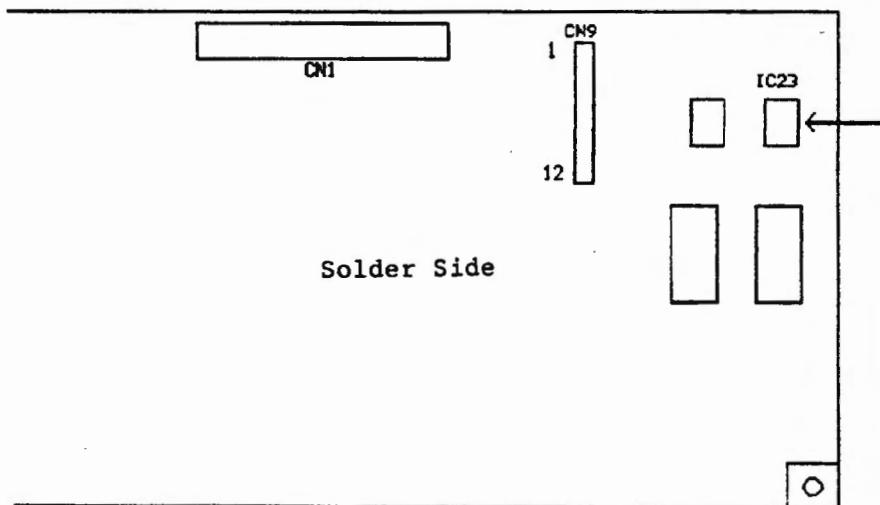
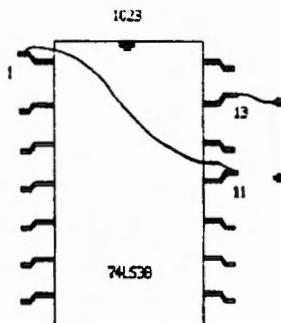

Figure 1
Figure 3
- 2) Locate IC23 (Figure 1) on the solder side of the engine drive PCB, this is a surface mounted 74LS38. See figure 3 for locating the correct pins to lift and for proper location of the jumper wires.